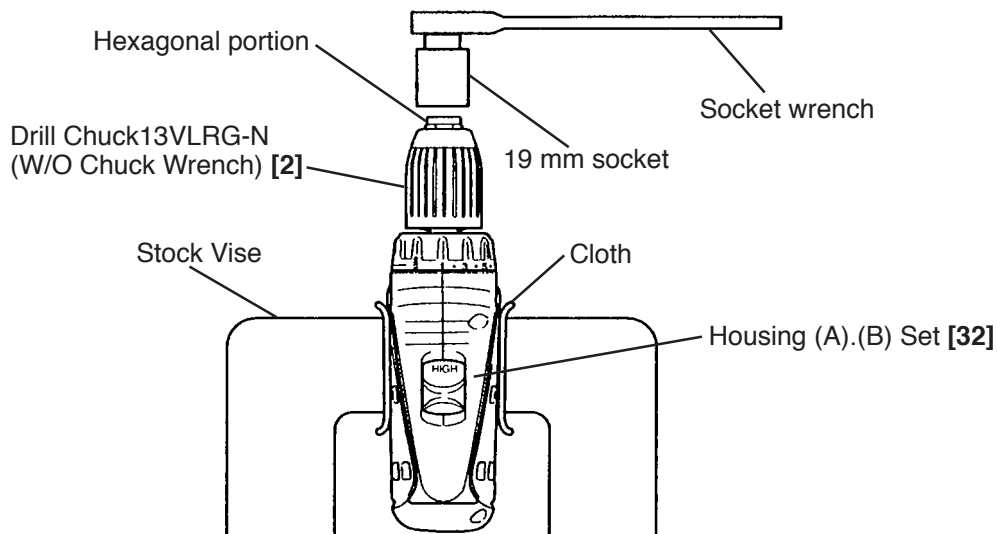

Fig. 4
(1) Removal of the Drill Chuck 13VLRG-N (W/O Chuck Wrench) **[2]** (See Fig. 4.)
- (b) Turn the hexagonal portion at the tip of the Drill Chuck 13VLRG-N (W/O Chuck Wrench) **[2]** counterclockwise with a 19-mm socket wrench to remove the Drill Chuck 13VLRG-N (W/O Chuck Wrench) **[2]** as shown in Fig.4. If it is difficult to loosen, use a pipe extension or similar tool. Carry out steps (a) and (b) with the main body clamped in the stock vise. It is recommended to fit a piece of cloth between the main body and the vise to protect Housing (A).(B) Set **[32]** from scratching.